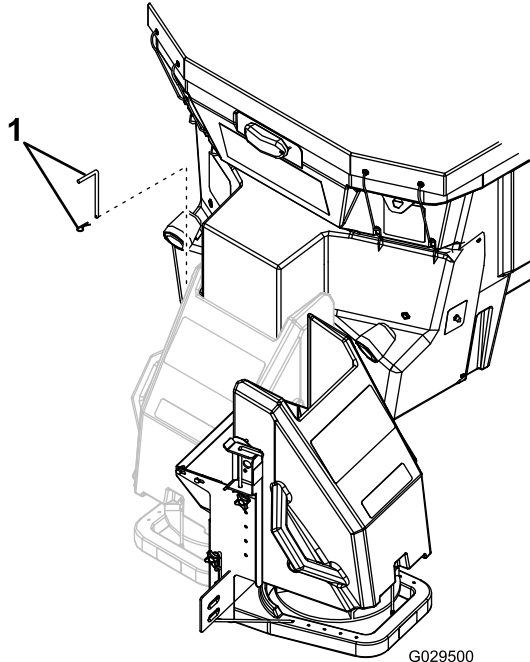

Figure 19
3. Remove the left latch and cotter pin from the spinner assembly (Figure 19).
4. Swing the spinner assembly free from the hopper opening (Figure 19).